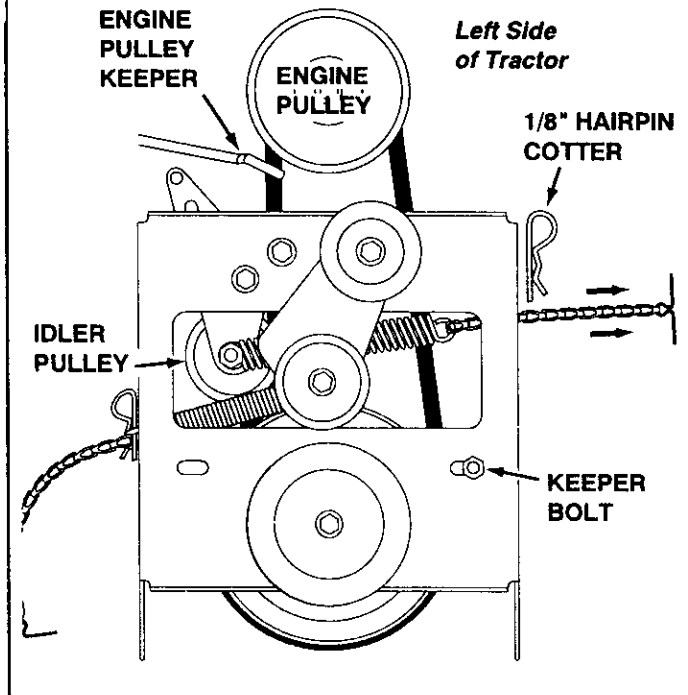

FIGURE 22 VIEWED FROM UNDERNEATH
- Assemble the short "V" belt onto the engine pulley and then onto the large pulley on top of the clutch/idler assembly. The belt must be placed to the inside of the engine pulley keeper, the idler pulley and the keeper bolt located beside the large pulley. See figure 22 on page 13..
- Place tension on the belt by pulling the left side tensioning chain out as far as the 5/64" hairpin cotter will allow. Secure the chain in this position by inserting a 1/8" hairpin cotter through the chain. See figure 22 on page 13.